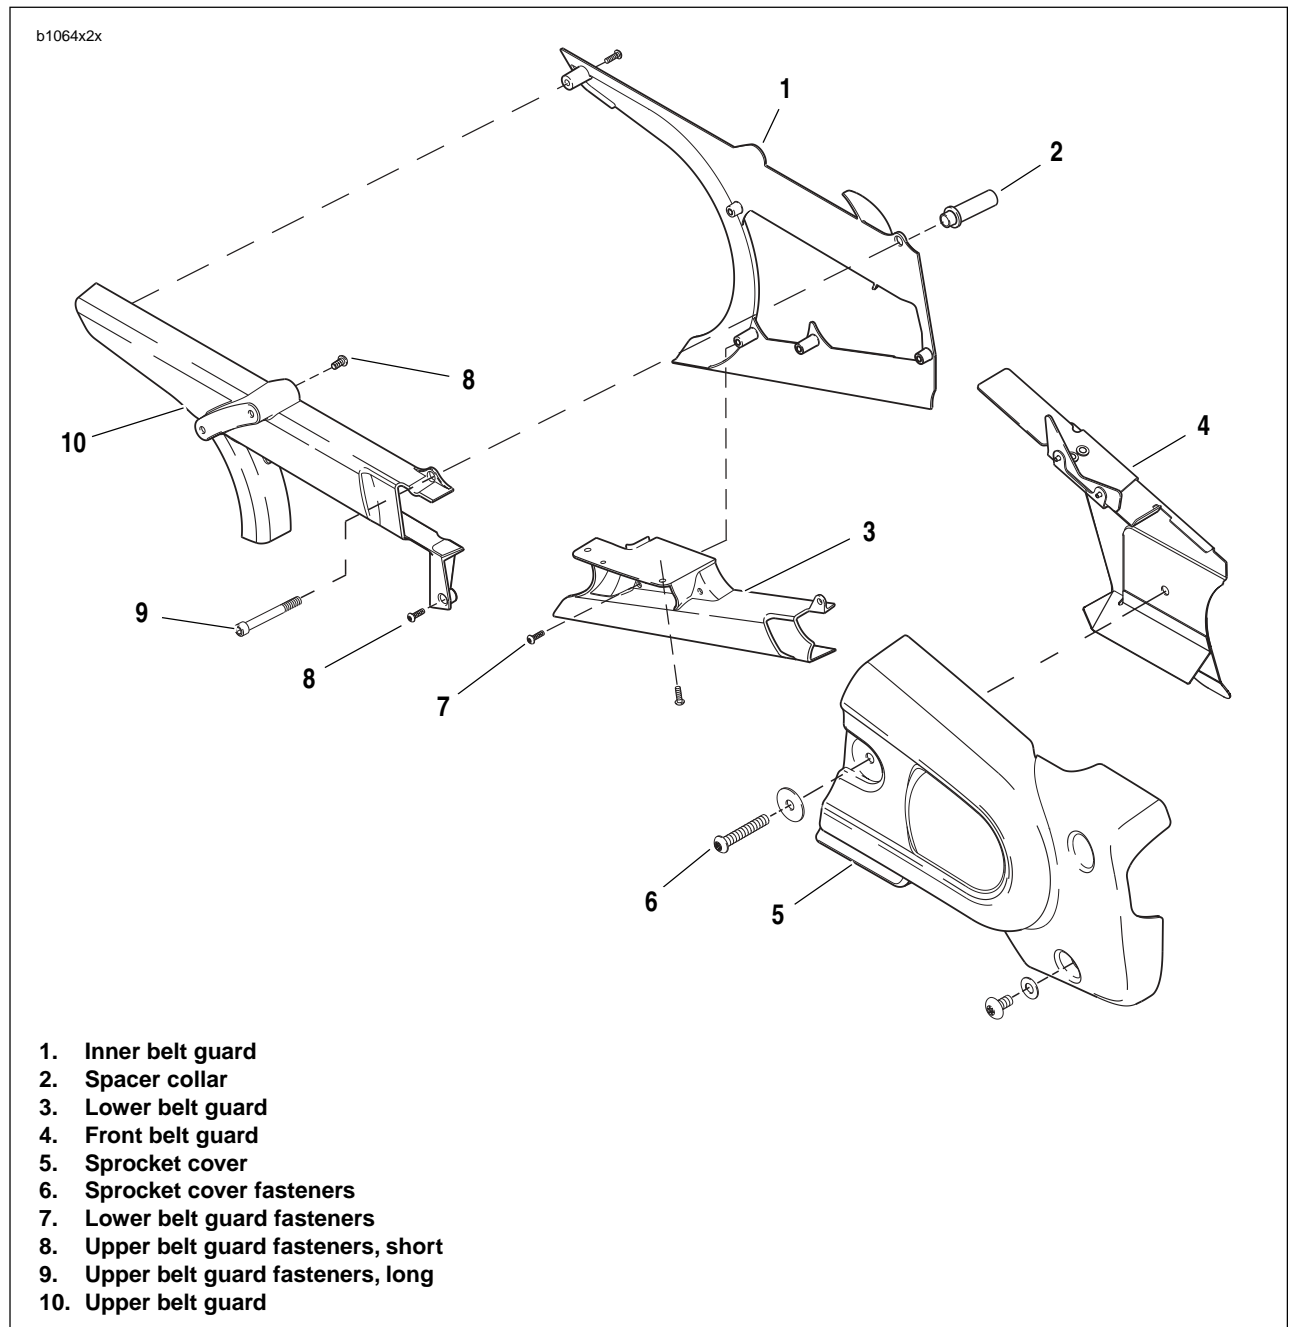

Figure 2-105. Belt Guard Assembly
4. See Figure 2-105. Remove front sprocket cover (5) by remove fasteners (6).
1. See Figure 2-105. Installing inner belt guard (1):
2. Install front belt guard (4). Do not tighten.
4. Install upper belt guard (10) to swingarm brace tightening fasteners to 12-36 **in-lbs** (1-4 Nm).
- a. Position the inner belt guard (1) and upper belt guard (10) onto swingarm.
- b. Install spacer collar (2) between upper belt guard (10), inner belt guard (1) and swingarm brace.
6. Install upper belt guard (10) and tighten fasteners (8, 9) to 12-36 **in-lbs** (1-4 Nm).